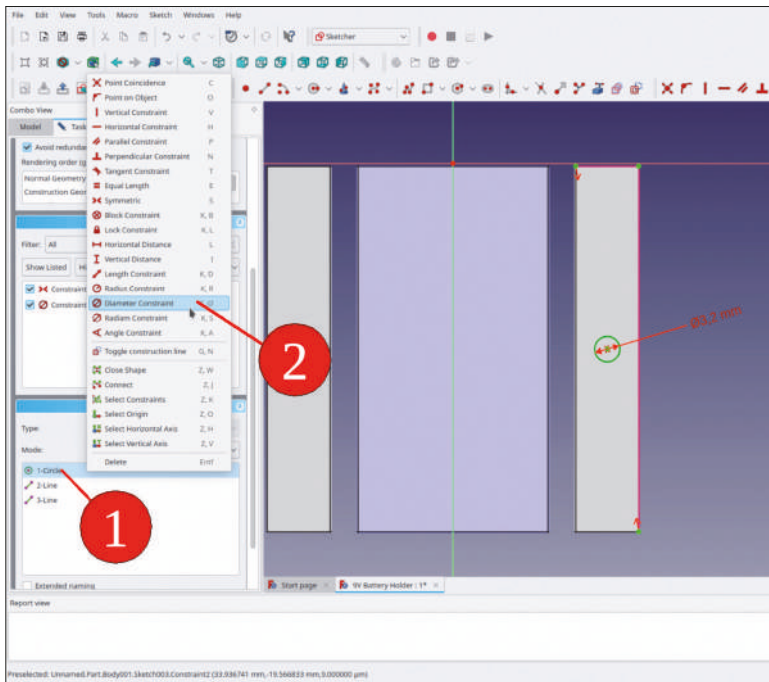

Figure 5-17
21. Right-click the circle in the 'Elements' list and select 'Diameter Constraint' from the context menu. Set the diameter to 3.2 mm (for an M3 screw, Figure 5-17). Close the sketch.